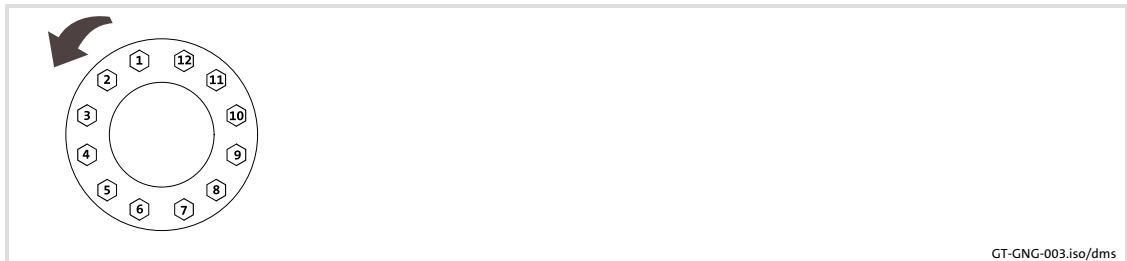

Fig. 8 Explanation: "one after the other"
4. Slightly loosen clamping screws (2) one after the other, do **not** unscrew!
7. Tighten clamping screws (2) one after the other (see Fig. 8) in several passes, with rising torque, evenly until the indicated screw-tightening torque (see Tab. 7) is reached at all screws.